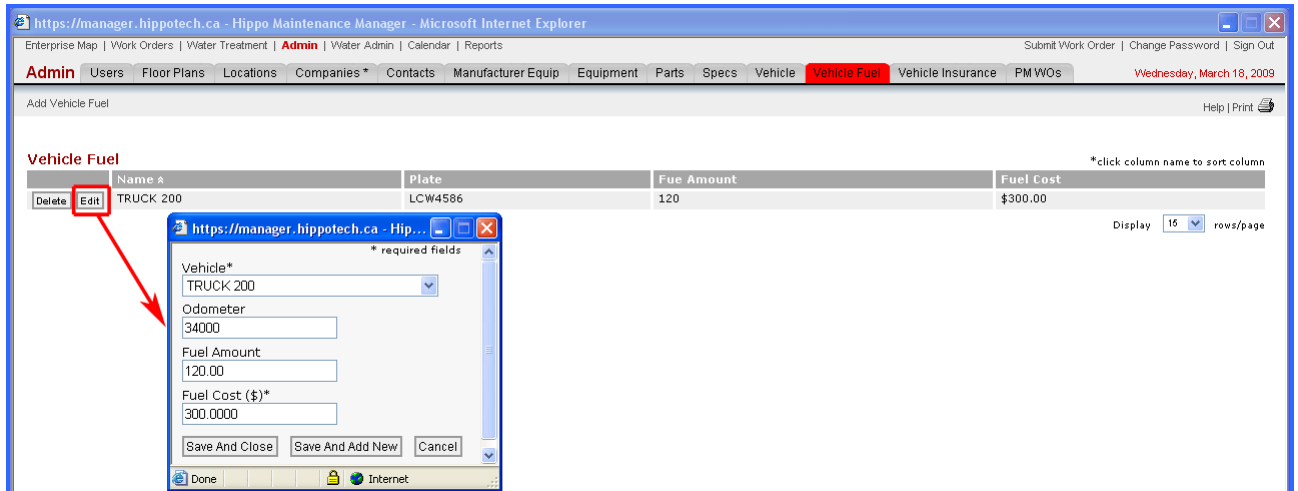

Figure 51: Edit Vehicle Fuel
2. Click the **Edit** button beside the vehicle you want to edit to bring up the vehicle window (See Figure 51).